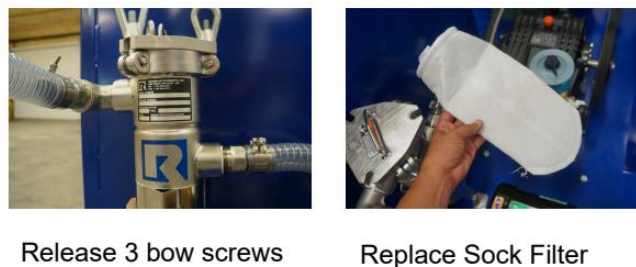

Figure 6.1 – Inspection / Cleaning Water Filter/Strainer
- 3) Inspect the inline strainer and filter media, to ensure that neither are clogged (See Figure 6.1). Clean or replace as necessary.
- 2) Unscrew the strainer bowl from the housing (turn CCW) (See Figure 6.1).